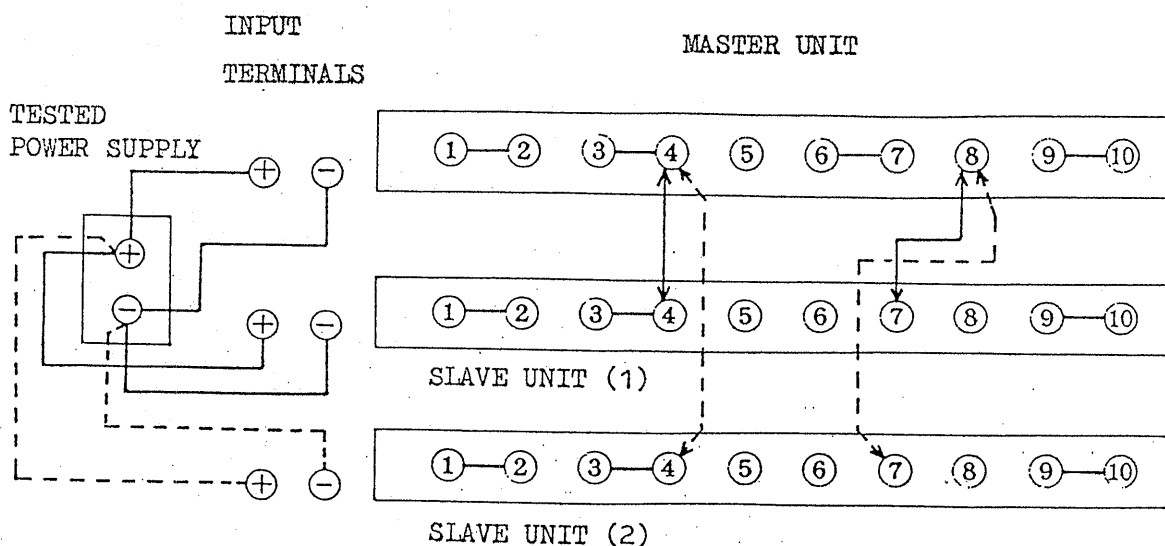

Fig. 15
- (1) To operate three units in parallel, connect the terminals of the rear panels as shown in Fig. 15. (To operate two units in parallel, eliminate the connections indicated with the dotted lines.)
* Be sure to connect the lead wires to the PLZ50-15A units directly from the power source as shown in Fig. 15.
- (2) Turn-on the power source switch and the load switches of the slave units.
- (3) Turn-on the load switch of the master unit, and the current will flow.
- (4) All operations are controlled with the master unit.
- (5) To finish the operation, turn-off at first the switch of the master unit and next the switches of the slave units. The current is cut out when the switch of the master unit is turned off.